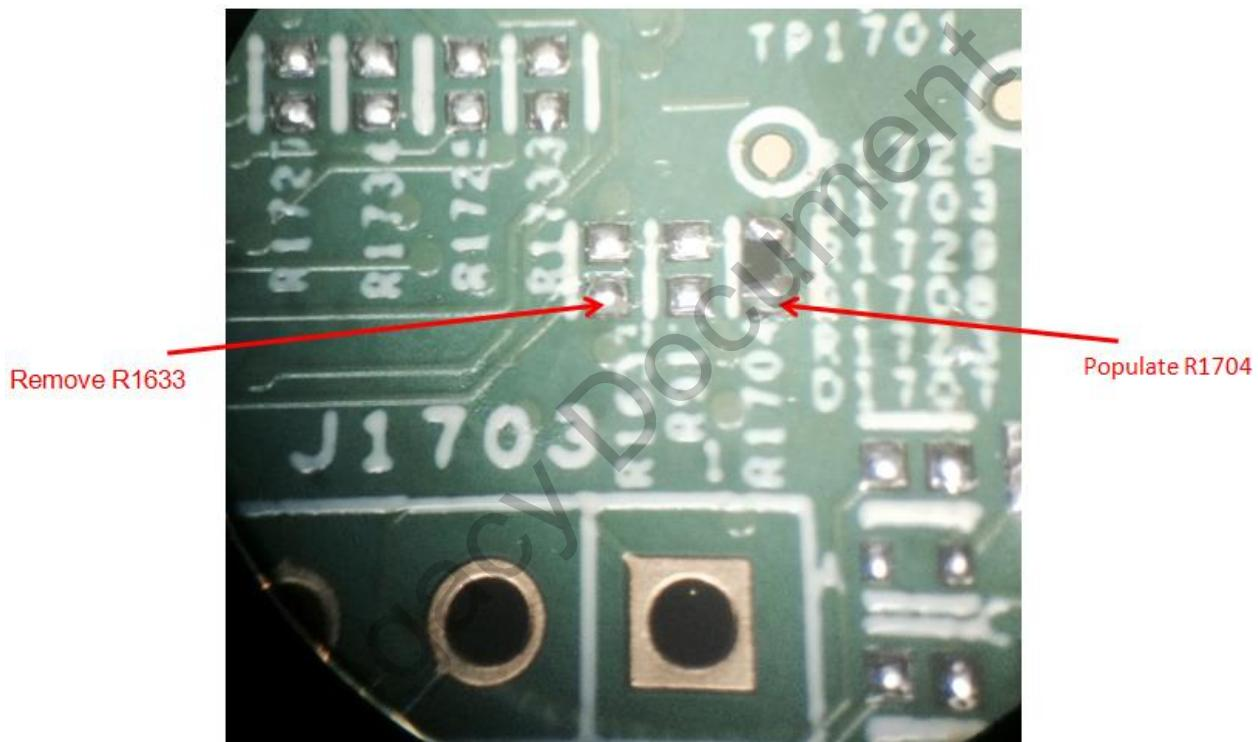

Figure 42: Rework for the i.MX 6Ultralite EVK
- 1) The only (optional) rework on the i.MX 6UltraLite EVK is to connect WL\_HOST\_WAKE. To connect out-of-band interrupt signal, disconnect ENET2\_RX\_ER from U1601 (default is Ethernet connection), and connect to WL\_HOST\_WAKE instead. Figure 42 illustrates this change. These resistor pads are located on the top of the i.MX6UL EVK next to the SD card connector (P1701). The easiest approach is to remove the Zero Ohm resistor from R1633 location and move to R1704 location.